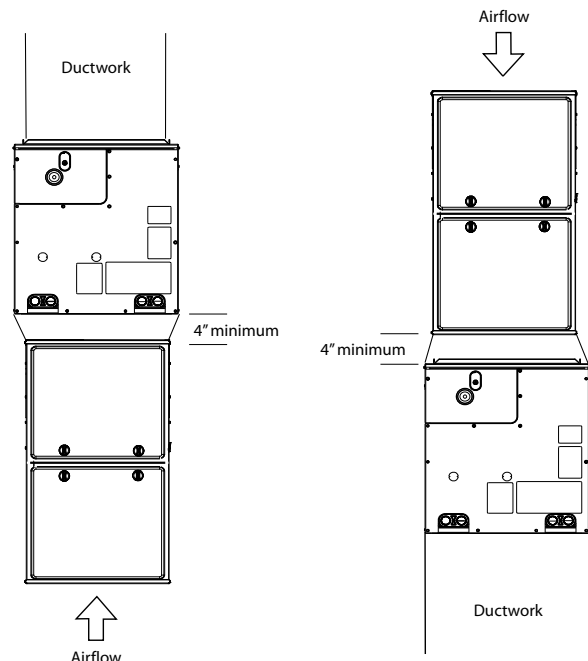

Fig. 3 – Adapter(s) Installation When Coil is Larger than Furnace (recommended)
- When installing wider coil on narrower furnace, it is recommended to use a transition adapter (Fig. 3).